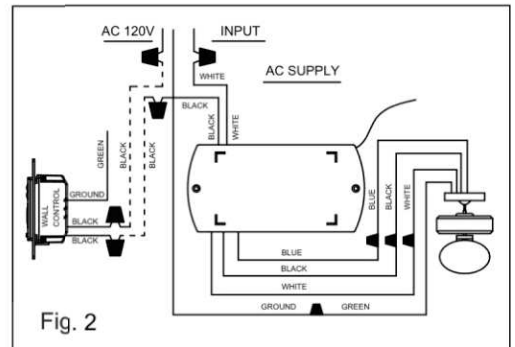

Fig. 2
Step 2. Make the electrical connections as shown in Fig.2. If your outlet box has a ground wire (Green or Bare Copper) connect the Wall Transmitter's ground wire to it. Otherwise connect the Wall Transmitter's wire directly to one of the screws from the outlet box. Secure all wire connections with the plastic wire nuts provided.